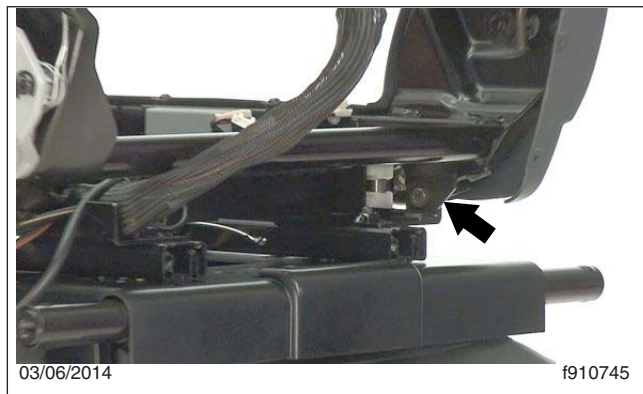

Fig. 13, Seat Tilt Limiter
3. Remove the seat tilt limiter at the rear of the seat frame; see Fig. 13.
9. Install the seat tilt limiter at the rear of the seat frame. Add Locktite to the screw and tighten 15 to 18 lbf-ft (20 to 24 N-m). See Fig. 13.